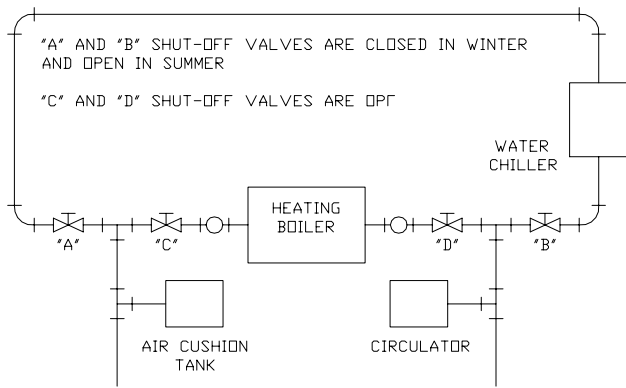

Figure 3: Recommended Piping for Combination Heating and Cooling (Refrigeration) System
- a. If this boiler is used in connection with refrigeration systems, the boiler must be installed so that the chilled medium is piped in parallel with the heating boiler using appropriate valves to prevent the chilled medium from entering the boiler. See Figure 3. Also, consult I=B=R Installation and Piping Guides.